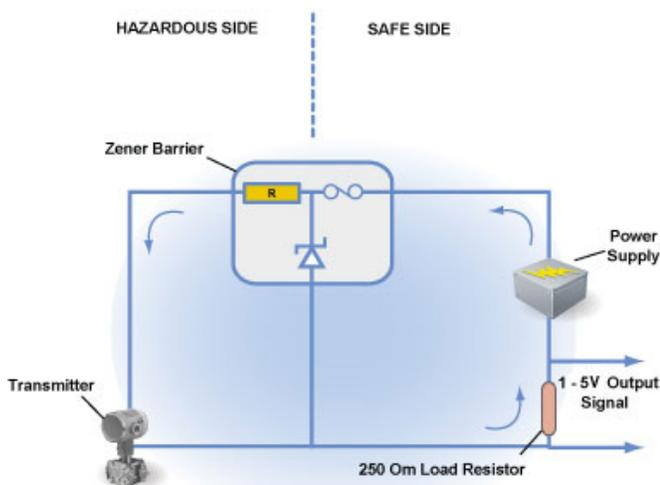

Figure 8 – 4-20mA Loop with Zener Barrier
- *Shunt-diode (zener) barriers* that use a high-quality safety ground connection to bypass excess energy (Fig 8)
Figure 8 a – 4-20mA Loop with Isolator